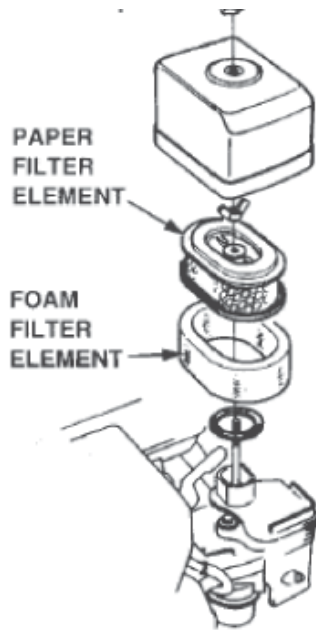

Figure 15. Air Cleaner
1. Remove the air cleaner cover and foam filter element as shown in Figure 15.
2. Tap the paper filter element (Figure 15) several times on a hard surface to remove dirt, or blow compressed air [not exceeding 30 psi (207 kPa, 2.1 kgf/cm²) through the filter element from the air cleaner case side. **NEVER** brush off dirt. Brushing will force dirt into the fibers. Replace the paper filter element if it is excessively dirty.